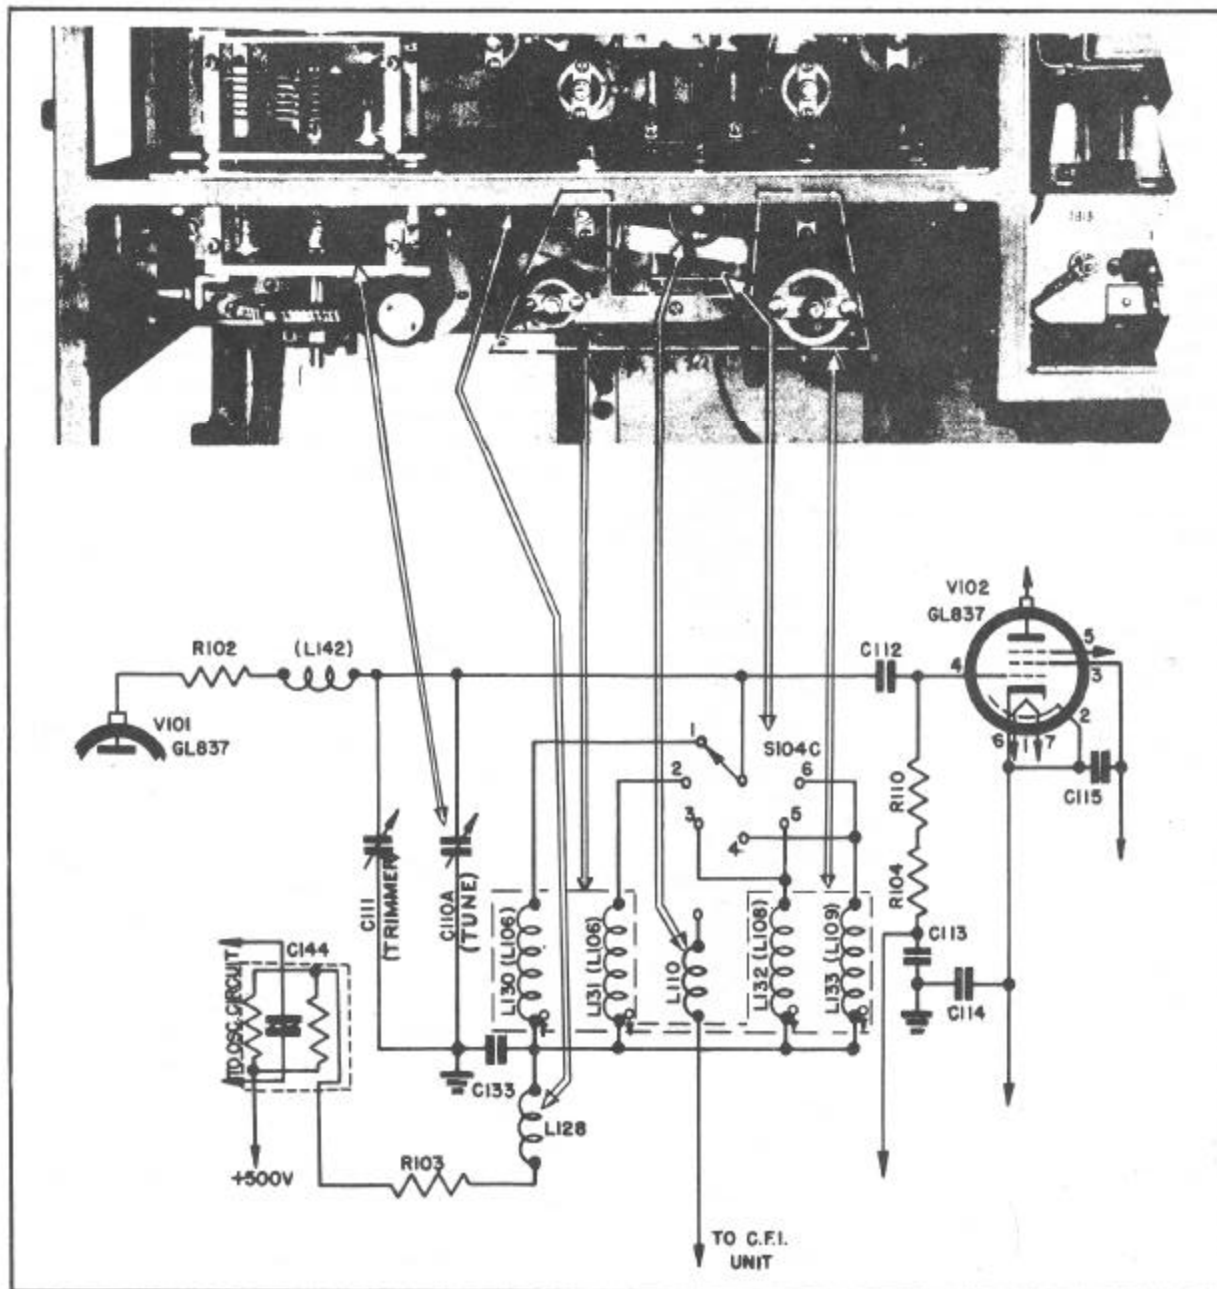

Figure 2-2—Master Oscillator Work Circuit Schematic
**3. WORK CIRCUIT. (See Figure 2-2.)**